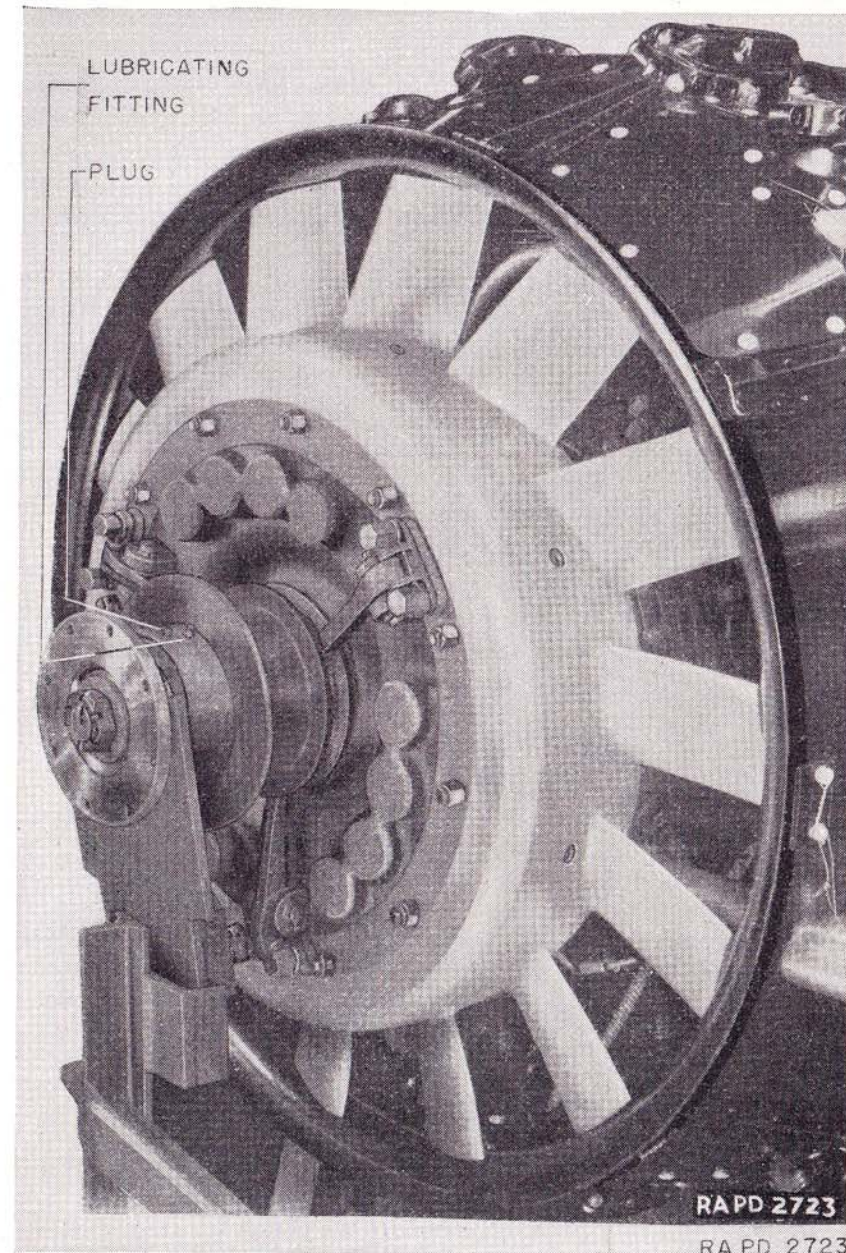
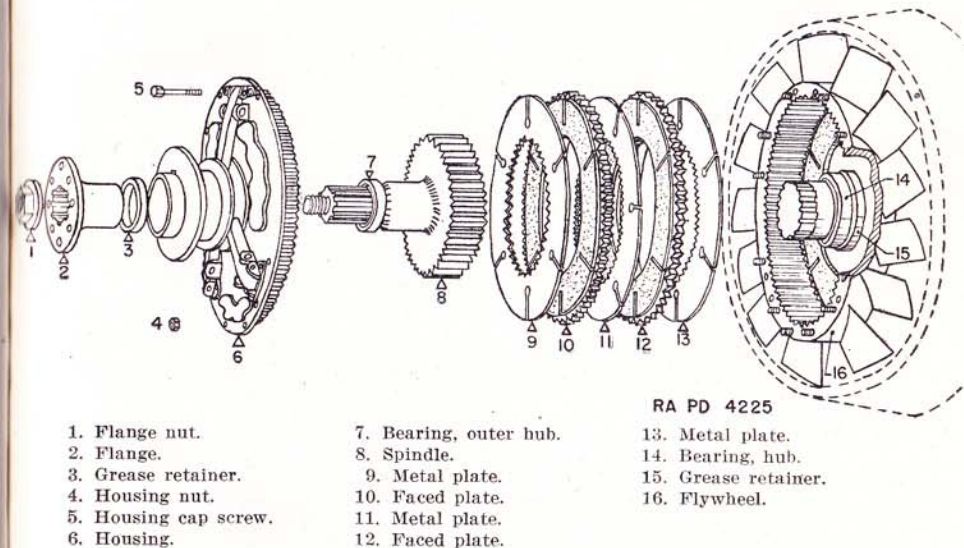

FIGURE 39.—Engine fan and clutch.
FIGURE 41.—Disassembly of clutch.
**72. Care.**—The clutch outer hub bearing (fig. 39) is greased as prescribed in figure 12. The clutch is disassembled and cleaned as shown in figure 41 at each 100-hour inspection.
III and proceed as follows (see fig. 41). Punch mark pressure plate assembly before taking apart, as each unit is carefully balanced.
78. **Clutch outer hub bearing.**—a. Clutch outer hub bearing is shown in figure 41. Care should be used in removing this bearing to prevent damage. After removal, it should be cleaned in dry-cleaning solvent, inspected, packed with lubricant, or replaced with a new bearing if necessary.
79. **Clutch inner hub bearing.**—a. The clutch inner hub bearing is shown in figure 41. The same precautions and treatment are to be followed in removing and replacing this bearing as for the clutch outer hub bearing.
81. **Reassembling clutch.**—The order of reassembly is to follow in reverse the steps used in taking the clutch apart, except that the spindle ((8), fig. 41) is replaced before the clutch plates (9 to 13, inclusive). Remember to replace screws and wire that hold plates on spindle. Care must be taken in replacing flange, as the lips of seal in sliding sleeve face out. Use shim stock or feeler gages to ease companion flange onto spindle so as not to rupture seal.